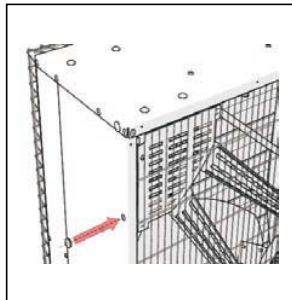

Fig.6
- Open the protection meshes from the air input side, loosening the screws in the fasteners on the mesh (**Figure 6**). Pass the motor piped cable through the rubber cable grommet previously inserted.